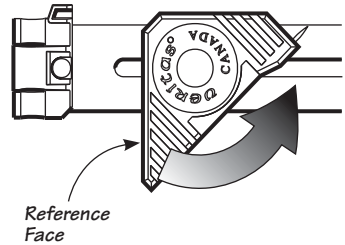

Figure 2: Marking gauge position.
1. Rotate the pin carrier to the orientation shown in **Figure 2**.